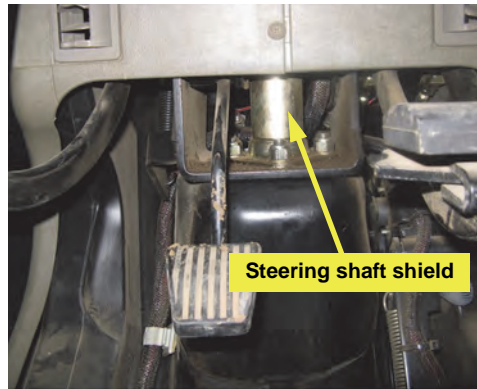

Figure 1a: The shielded steering shaft
- a. Locate the steering shaft under the steering console near the cab floor. The shaft is surrounded with a metal shield (Figure 1a).